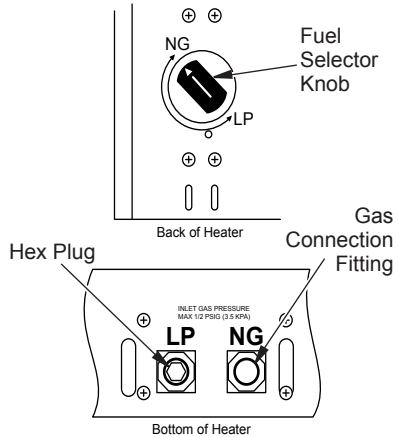

Figure 12 - Settings for Natural Gas Selection
1. Remove top screw from cover plate located on back of heater (see Figure 12). Rotate to expose fuel selection device.
2. For NATURAL GAS, press knob using a flat screwdriver with a blade with thickness of a quarter and turn knob clockwise  until the knob locks into the NG position (see Figure 12). Fuel selection device must be locked in the NG position. Do not operate heater between locked positions!
4. Remove hex plug (with wrench provided) from natural gas inlet of regulator (see Figure 12). Install hex plug into LP inlet of regulator. Install gas line into NG inlet of regulator. Use thread sealant to ensure that there are no leaks.